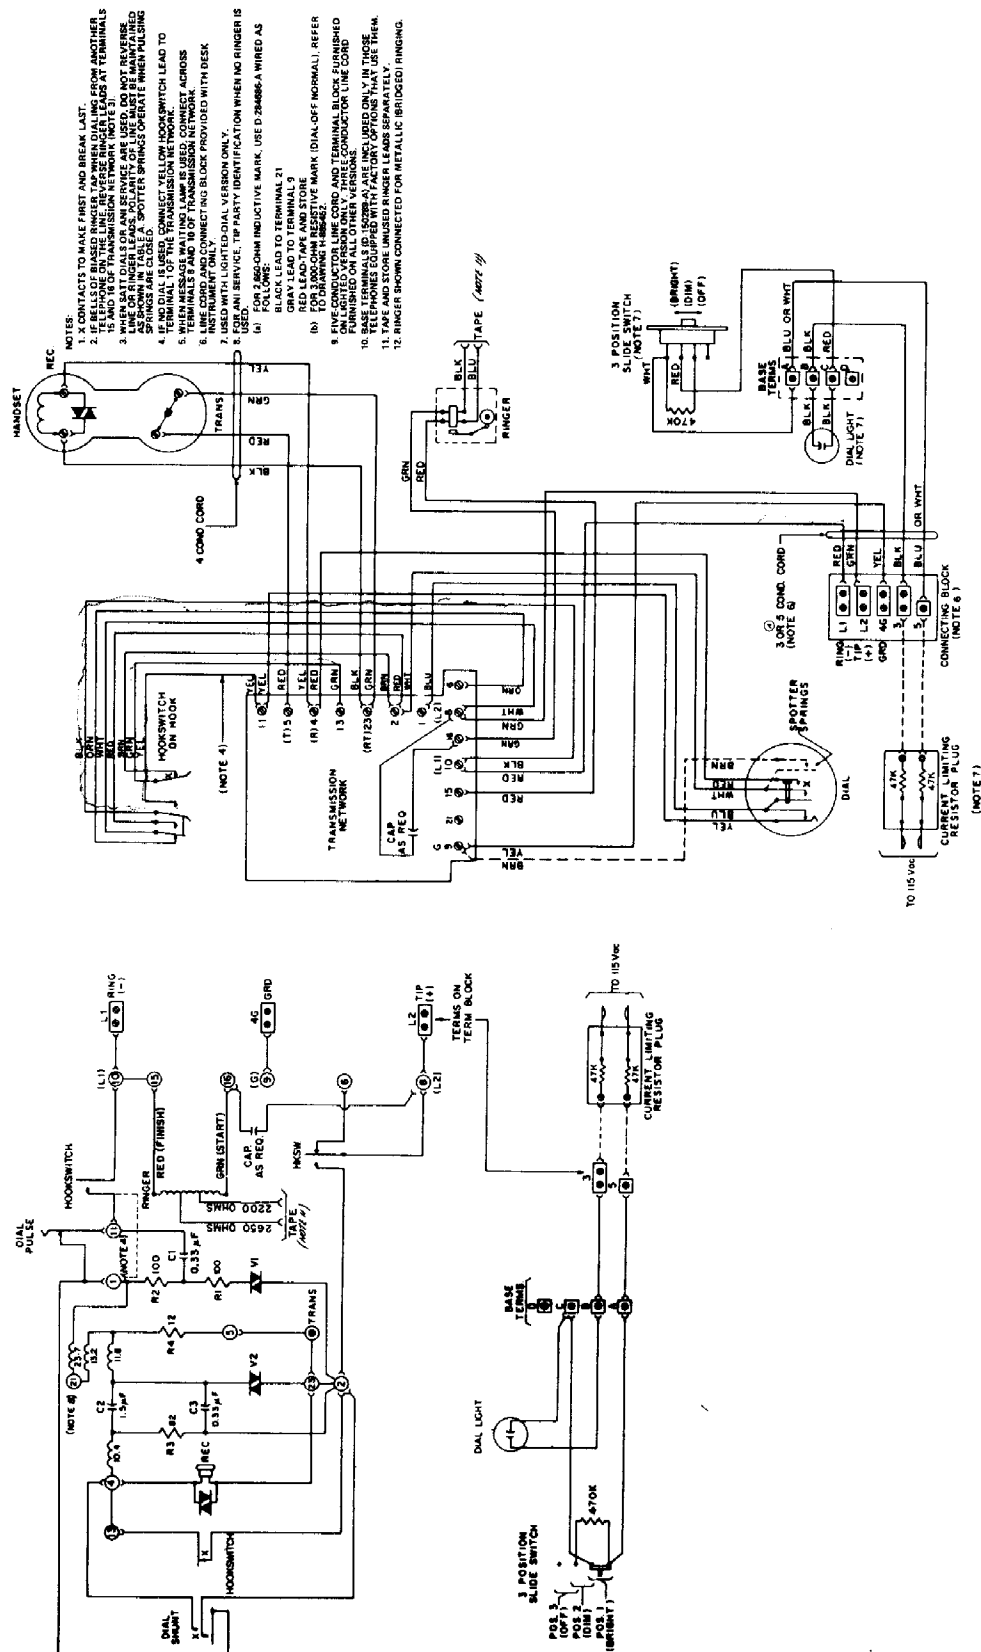

Figure 7. Schematic Wiring Diagram of the Type 182A and 192A Telephones Equipped with a Rotary Dial.
4.03 To install the optional dial light switch (item 30), proceed as follows:
- (b) Connect the leads according to Figure 7 and Table 5.
- (d) Connect the ringer leads to the telephone circuitry according to Figure 7 or 8 and Table 5 or 6.
- (e) Connect the capacitor (item 27) to the transmission network.
4.07 To install the line cord (item 15 or 15a) on the Type 182A telephone, proceed as follows:
- (a) Connect the leads to the transmission network and baseplate terminals according to Figures 7 or 8 and Tables 5 or 6 (depending on the type of service required).